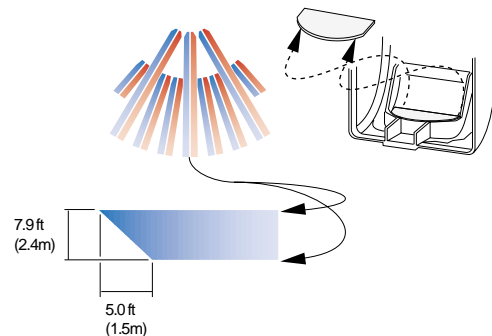

Figure 5. Undercrawl mask
- Use the cardboard undercrawl window mask as shown in Figure 5. The undercrawl mask allows objects to be placed within 5 feet of, or directly below, the detector.